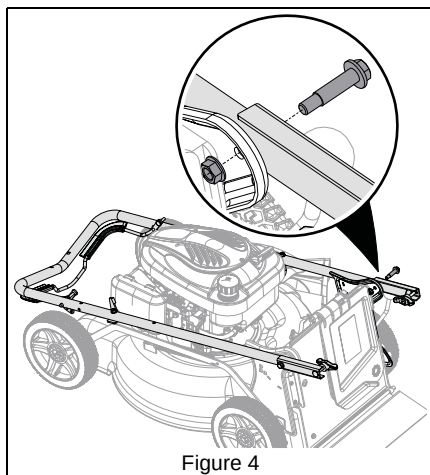

Figure 4
2. Remove handlebar mounting hardware. See Figure 4.